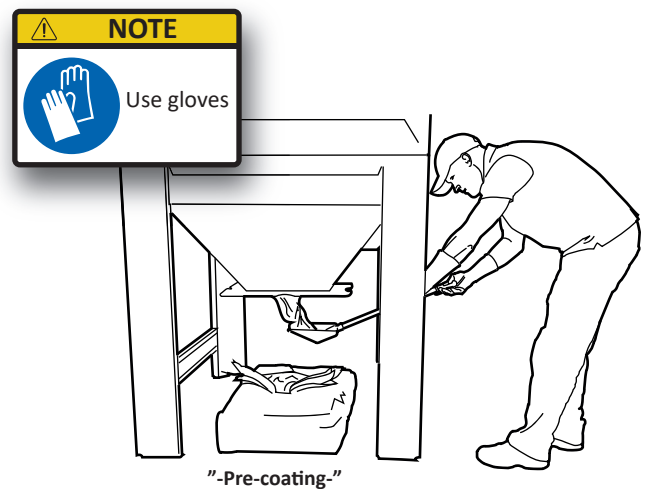

Fig. 13
2. Start the fan at full speed and suck up all the dust. Dispense the powder in an even flow so that the suction rate is approx. 20 sec/1kg, see Fig. 13.